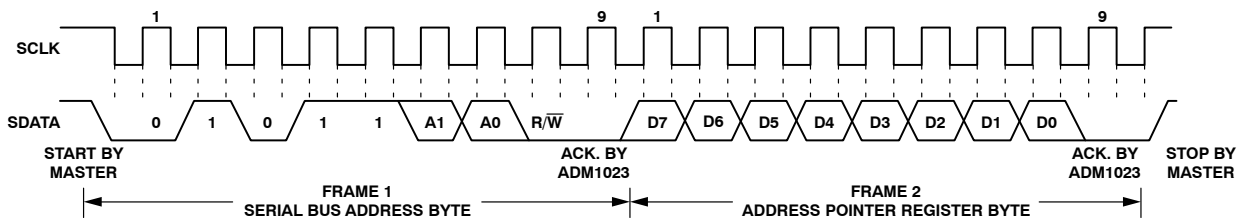
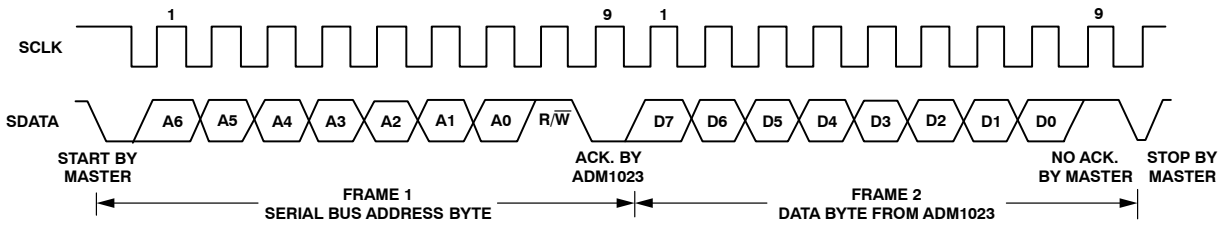

Figure 16. Writing to the Address Pointer Register Only
Figure 17. Reading Data from a Previously Selected Register
1. If the ADM1023's address pointer register value is unknown or not the desired value, it is necessary to set it to the correct value before data can be read from the desired data register. This is done by performing a write to the ADM1023 as before, but only the data byte containing the register read address is sent, as data is not to be written to the register. This is shown in Figure 16. A read operation is then performed consisting of the serial bus address, $\overline{R/\overline{W}}$ bit set to 1, followed by the data byte read from the data register. This is shown in Figure 17.